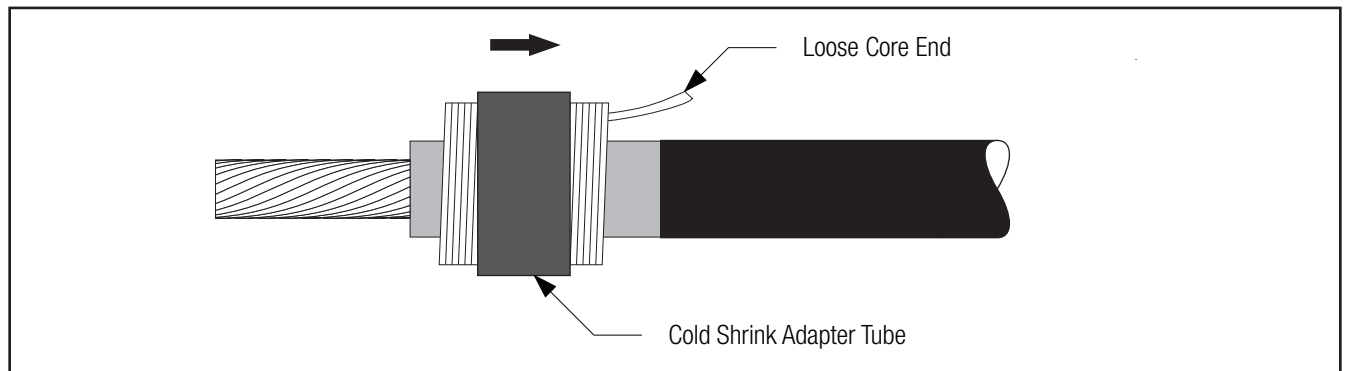

Figure 15
4.4 For 4/0 AWG through 350 kcmil copper connectors or connectors with an O.D. between 0.69–0.84" (17,5–21,3 mm): Slide the cold shrink adapter tube onto the insulation with the loose core ribbon end going on first, away from the cable end (Figure 15).